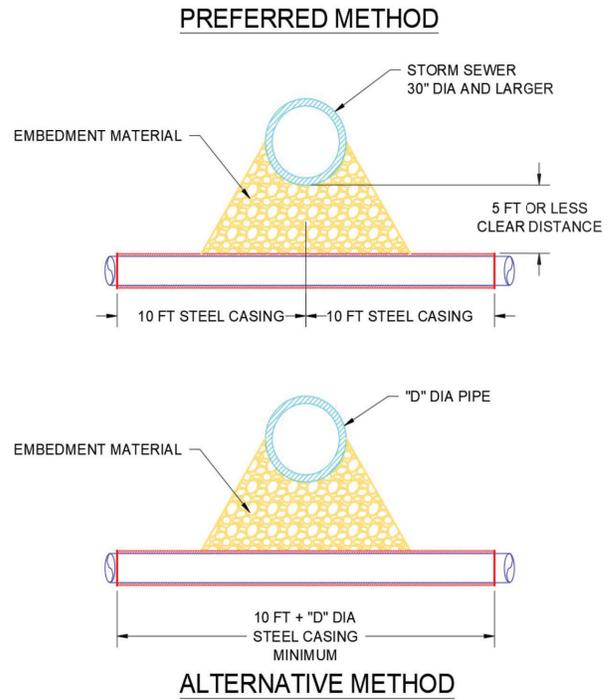

Figure 7- Storm Sewer Crossings
3.16. All water mains that cross under storm sewer mains of thirty (30) inch and larger, must be steel encased a minimum of twenty (20) feet centered under storm sewer crossing. If twenty (20) feet cannot be achieved due to alignment or other issues which will not allow at least three (3) feet spacing between the end of casing and any fitting, then the water main can be steel encased a minimum of five (5) feet past the outside diameter of the storm sewer main (i.e. crossing under a 36-inch storm sewer, minimum steel encasing length is thirteen (13) feet, five (5) feet each side of storm sewer pipe plus the three (3) feet storm pipe equals 13 feet). Embedment Material or Type-A aggregate is required under the crossing pipe and above the casing of the water main. This requirement must be indicated and labeled on all design drawings submitted for review and approval. Distance must be measured from outside edges of pipes. If five (5) feet or greater separation can be maintained, steel encasement or additional embedment material or Type-A aggregate is not required. See Figure 7.